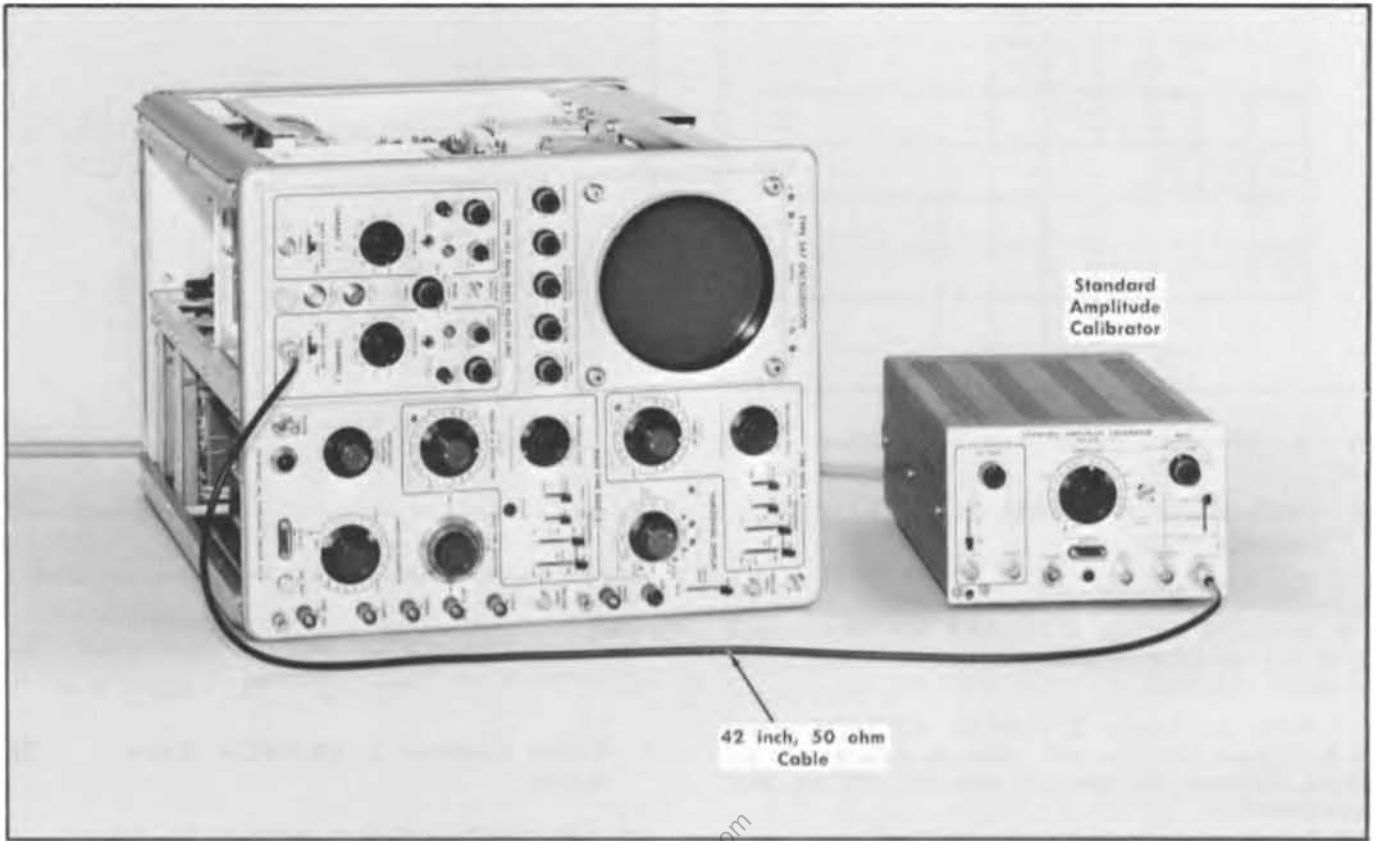

Fig. 7-7. Test equipment setup for steps 5 through 10.
**5. Adjust Channel 2 .05 V/CM GAIN (R439) ①**
- a. Test equipment setup, with connections made at completion of step 5b, is shown in Fig. 7-7.
- a. Test equipment setup is shown in Fig. 7-7.
- a. Test equipment setup is shown in Fig. 7-7. This is the same setup as shown except Channel 1 connector and controls are used for this step.
a. Test equipment setup is shown in Fig. 7-7. (The signal is applied to Channel 1 for this step.)
a. Test equipment setup is shown in Fig. 7-7.